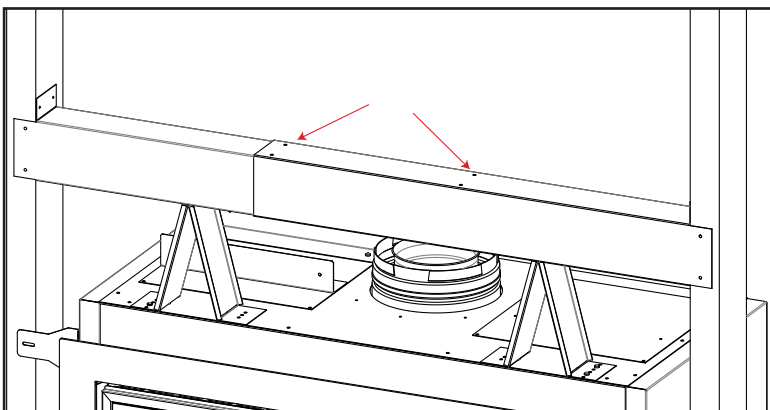

Figure 21: Steel Stud Attachment
- Using the provided sheetmetal screws, attach the two steel stud pieces together using the labeled holes in Figure 21. This should be done on the top and bottom of the steel stud to ensure its rigidity.